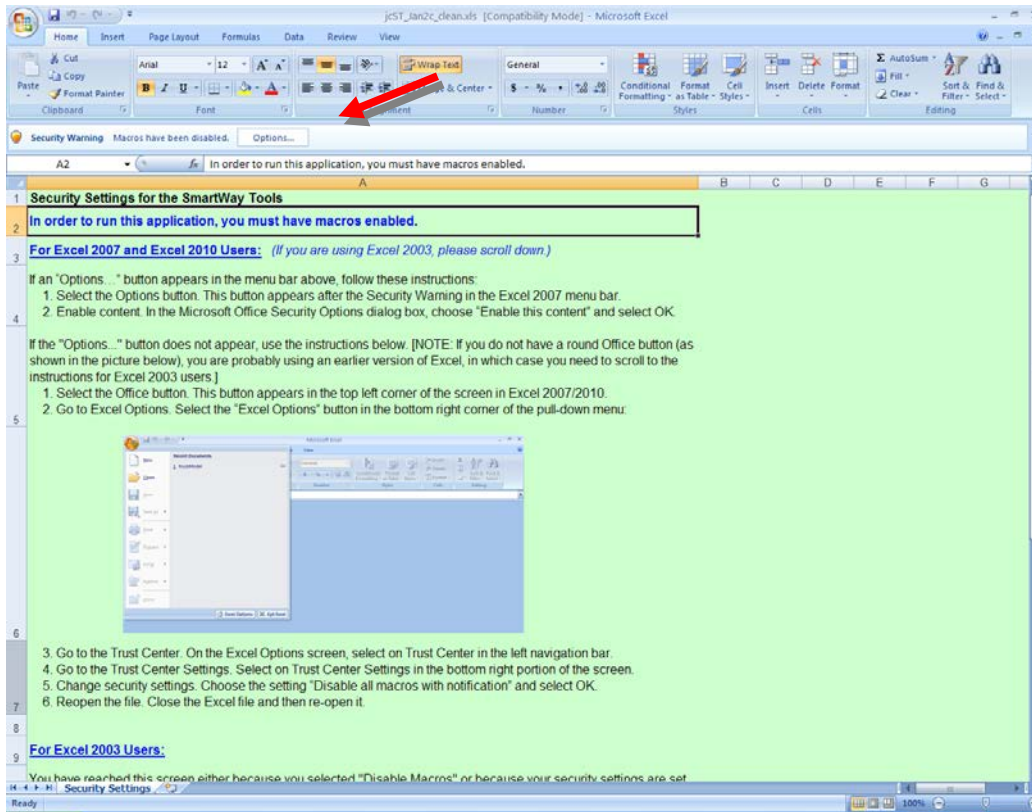

Figure 4: Security Warning Screen
- 2) Open the file, and select the  button that appears after the Security Warning just below the menu bar (**Figure 4**). Detailed instructions are also provided on the screen itself.